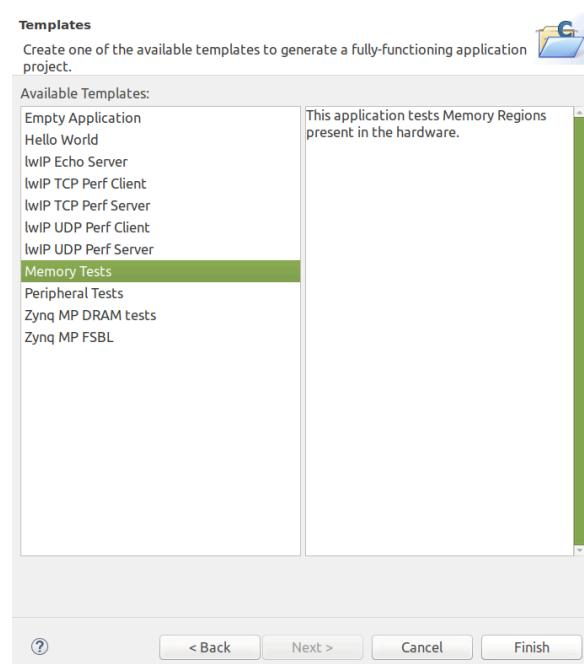

Figure 8. Xilinx SDK Project Templates
3. Select the “Memory Test” template like Figure 8.